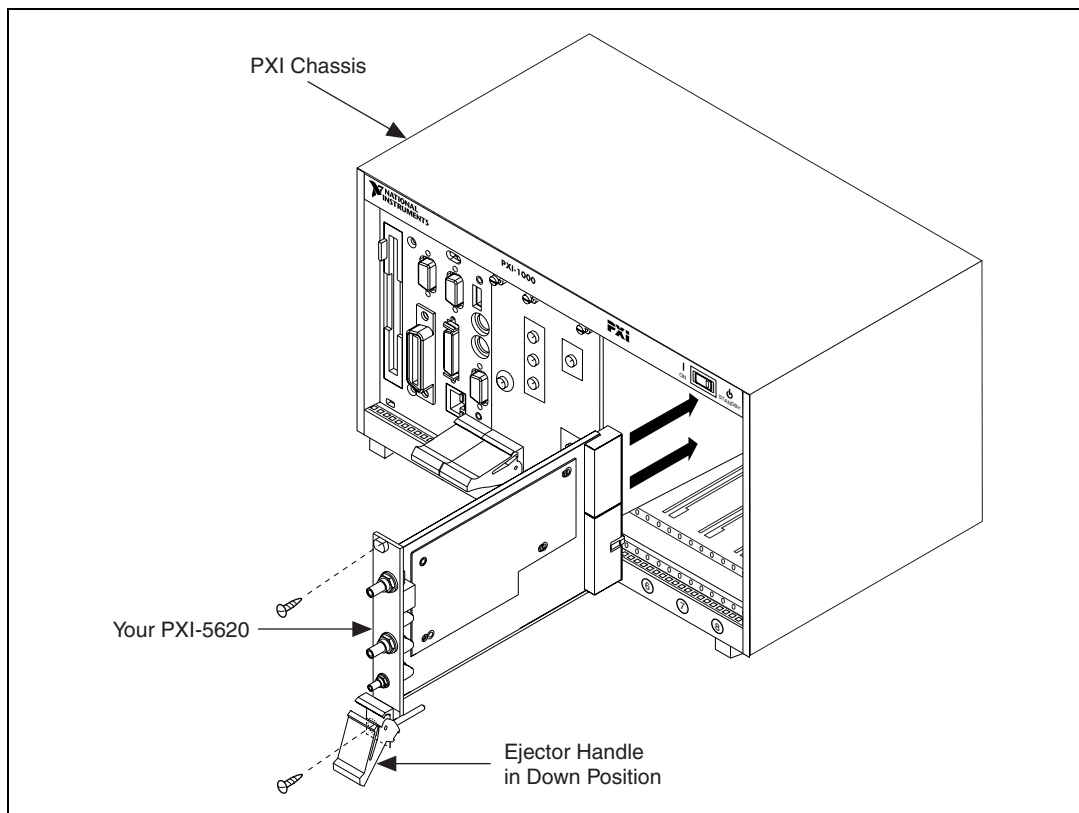

Figure 1-3. PXI-5620 Frequency-Domain Digitizer Module Installation
3. Install the PXI-5620 frequency-domain digitizer module as shown in Figure 1-3.